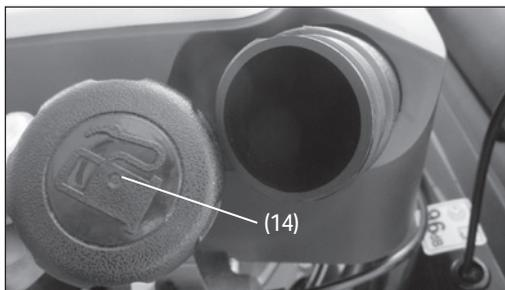

Fig.6
- Fit the bottom section of the handle (7) to the bag (8) and secure the top of the handle to the bag with the screw supplied.
- Lift up the discharge cover (9) and hook the bag onto the rear bar.
6.5 Fuelling the Lawnmower (Fig.6)
To fuel the lawnmower (Fig.6)